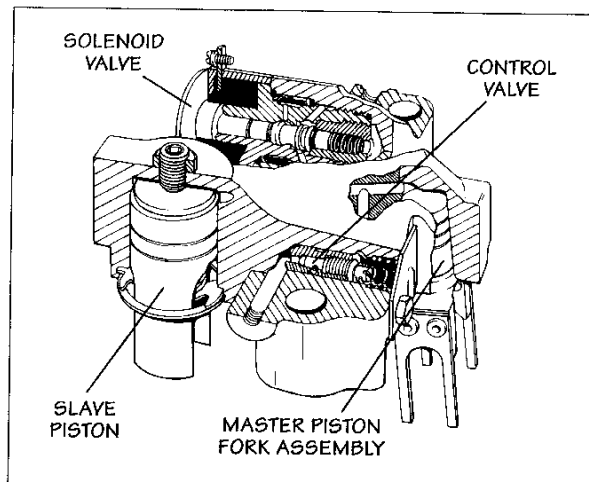

FIG. 1.6.1
- 71A/92A (Fig. 1.6.1): Used on all 4, 6, 8, 12 and 16 cylinder engines whether naturally aspirated, turbocharged, TA or TTA engines